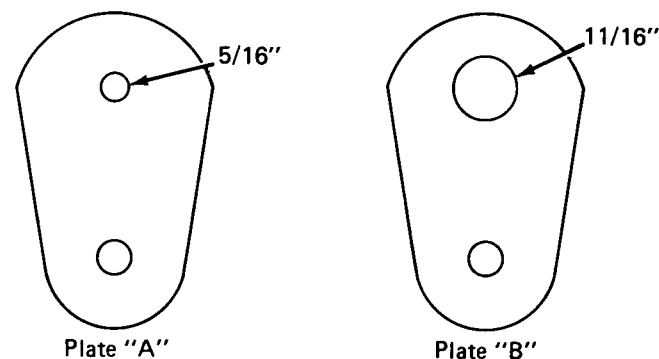

Fig. 10 (Zone 1A, 6H)
In Fig. 10 note that two of the plates have a top mounting hole dimension of 5/16-inch (A) and on the remaining two, the dimension of this hole is 11/16-inch (B). Other than that one specific difference, all four of the extension plates are identical.